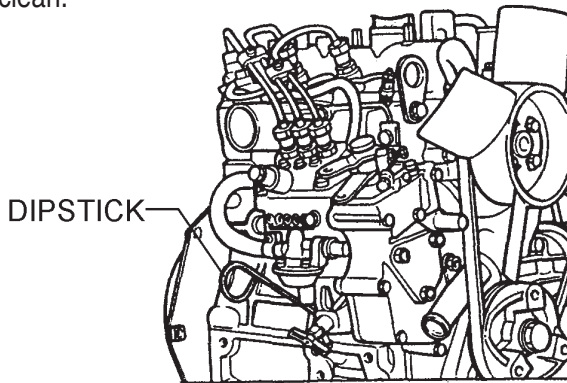

Figure 7. Engine Oil Dipstick Removal
2. Remove the dipstick from its holder (Figure 7) and wipe clean.